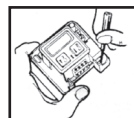

Fig. 4
4. Mount the base with the wire through the holes of the base and tighten the base with screws on the wall (see figure 4).